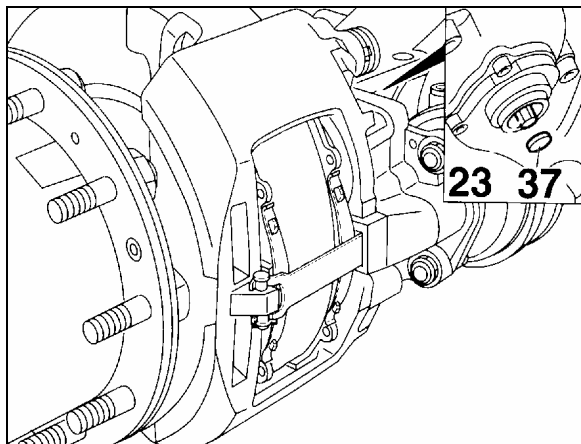

FIGURE 27: ADJUSTER PINION 12120
- Using a box wrench (8 mm), turn the adjuster pinion (23, Fig. 27) counterclockwise about 2 - 3 clicks to increase running clearance. By operating the braking system
about 5 - 10 times (30 PSI or 2 bar), the wrench should turn clockwise in small increments if the adjuster is functioning correctly (Figs. 27 and 28).